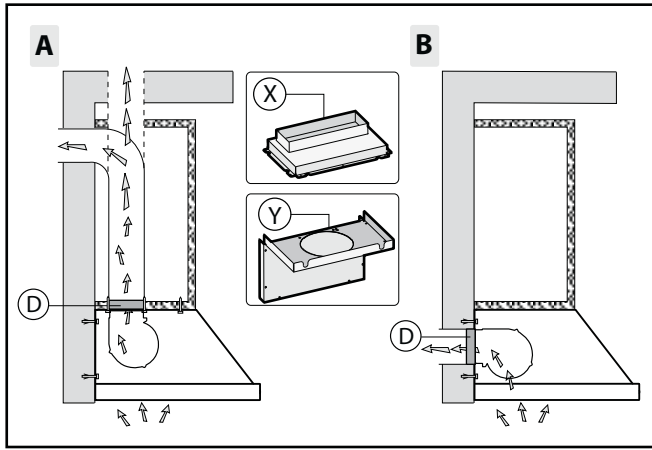

Fig.1
- The air evacuation flange is supplied with the rectangular shape **X** and circular shape **Y** (Fig.1).